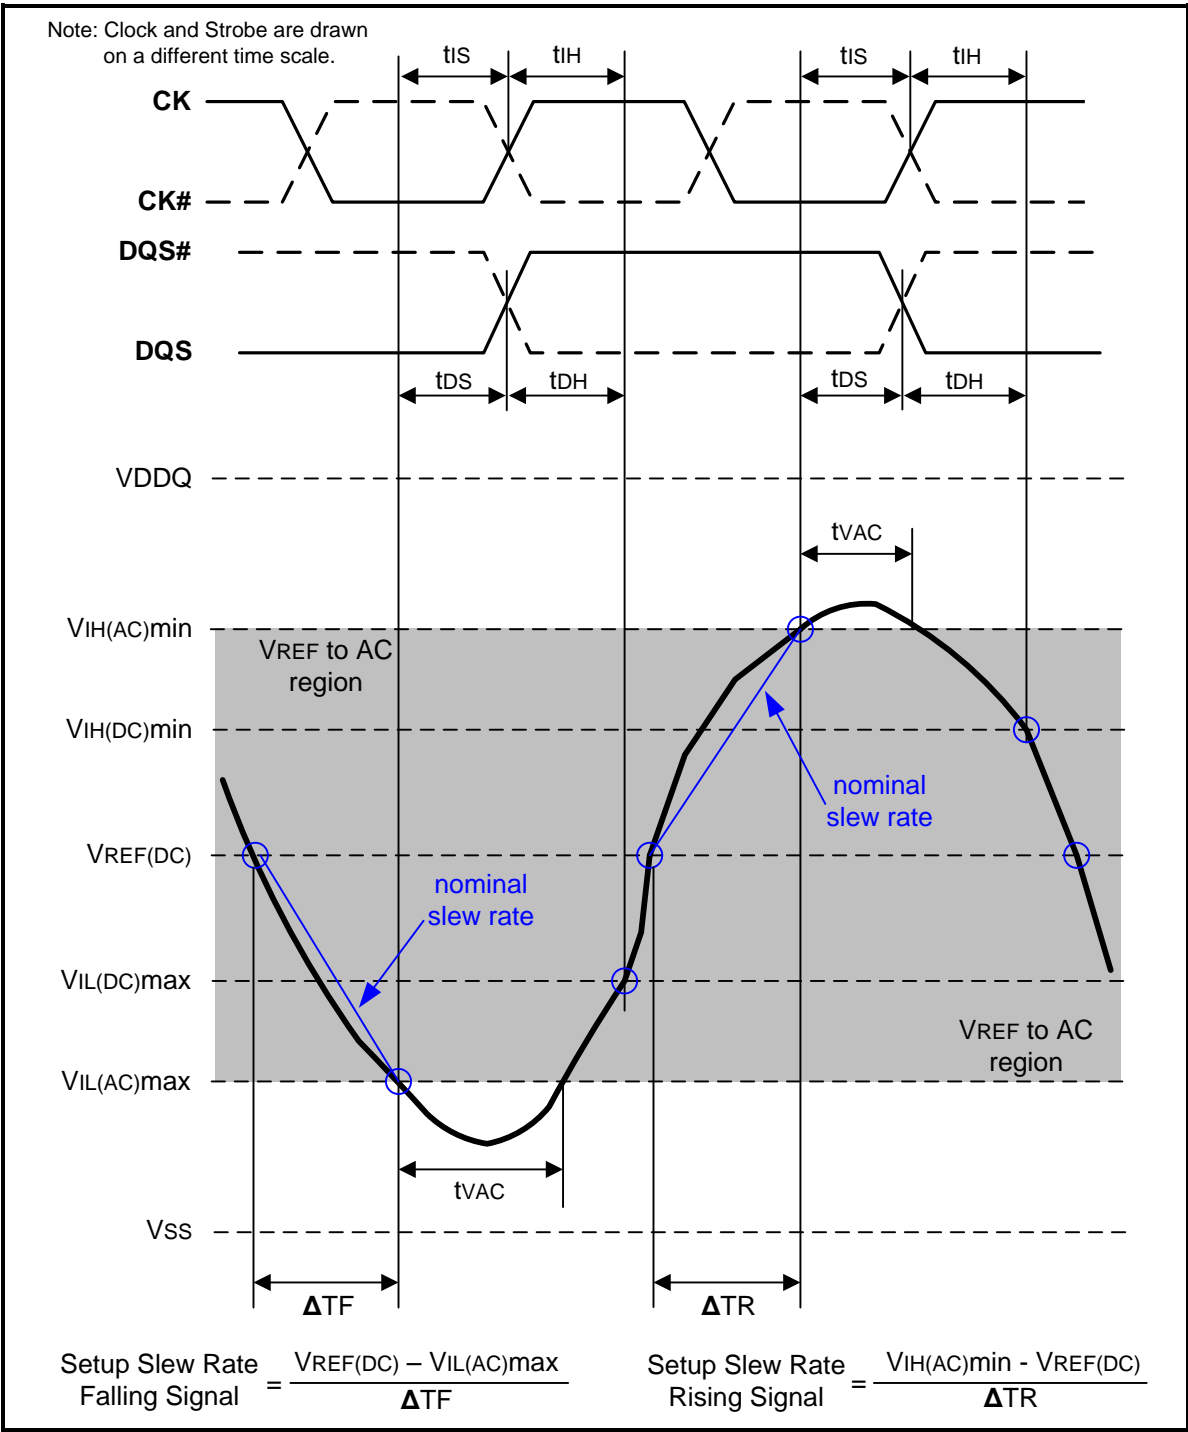

Figure 107 – Illustration of nominal slew rate and tvAC for setup time tDS (for DQ with respect to strobe) and tIS (for ADD/CMD with respect to clock)
Setup ( $t_{IS}$ ) nominal slew rate for a rising signal is defined as the slew rate between the last crossing of  $V_{REF(DC)}$  and the first crossing of  $V_{IH(AC)min}$ . Setup ( $t_{IS}$ ) nominal slew rate for a falling signal is defined as the slew rate between the last crossing of  $V_{REF(DC)}$  and the first crossing of  $V_{IL(AC)max}$ . If the actual signal is always earlier than the nominal slew rate line between shaded 'VREF(DC) to AC region', use nominal slew rate for derating value (see Figure 107). If the actual signal is later than the nominal slew rate line anywhere between shaded 'VREF(DC) to AC region', the slew rate of a tangent line to the actual signal from the AC level to  $V_{REF(DC)}$  level is used for derating value (see Figure 109).
Setup (tDS) nominal slew rate for a rising signal is defined as the slew rate between the last crossing of VREF(DC) and the first crossing of VIH(AC)min. Setup (tDS) nominal slew rate for a falling signal is defined as the slew rate between the last crossing of VREF(DC) and the first crossing of VIL(AC)max (see Figure 107). If the actual signal is always earlier than the nominal slew rate line between shaded 'VREF(DC) to AC region', use nominal slew rate for derating value. If the actual signal is later than the nominal slew rate line anywhere between shaded 'VREF(DC) to AC region', the slew rate of a tangent line to the actual signal from the AC level to VREF(DC) level is used for derating value (see Figure 109).